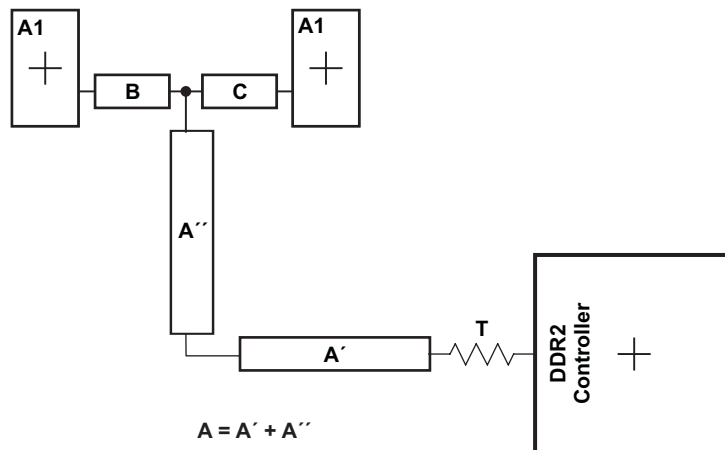

Figure 9-52. CK and ADDR_CTRL Routing and Topology
Figure 9-52 shows the topology of the routing for the CK and ADDR_CTRL net classes. The route is a balanced T as it is intended that the length of segments B and C be equal. In addition, the length of A ($A' + A''$) should be maximized.
(1) The length of segment A = A' + A'' as shown in Figure 9-52.
(2) Series terminator, if used, should be located closest to the processor.
(3) Center-to-center spacing is allowed to fall to minimum (w) for up to 500 mils of routed length to accommodate BGA escape and routing congestion.
(4) CACLM is the longest Manhattan distance of the CK and ADDR_CTRL net classes.